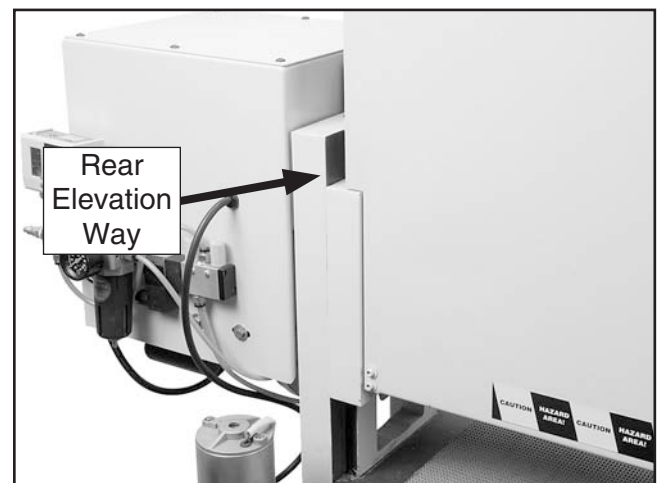

Figure 30. Elevation dovetail way on rear of the sander.
2. Raise and lower the sanding cabinet to access the entire length of the front and rear dovetail way (see **Figure 30**).